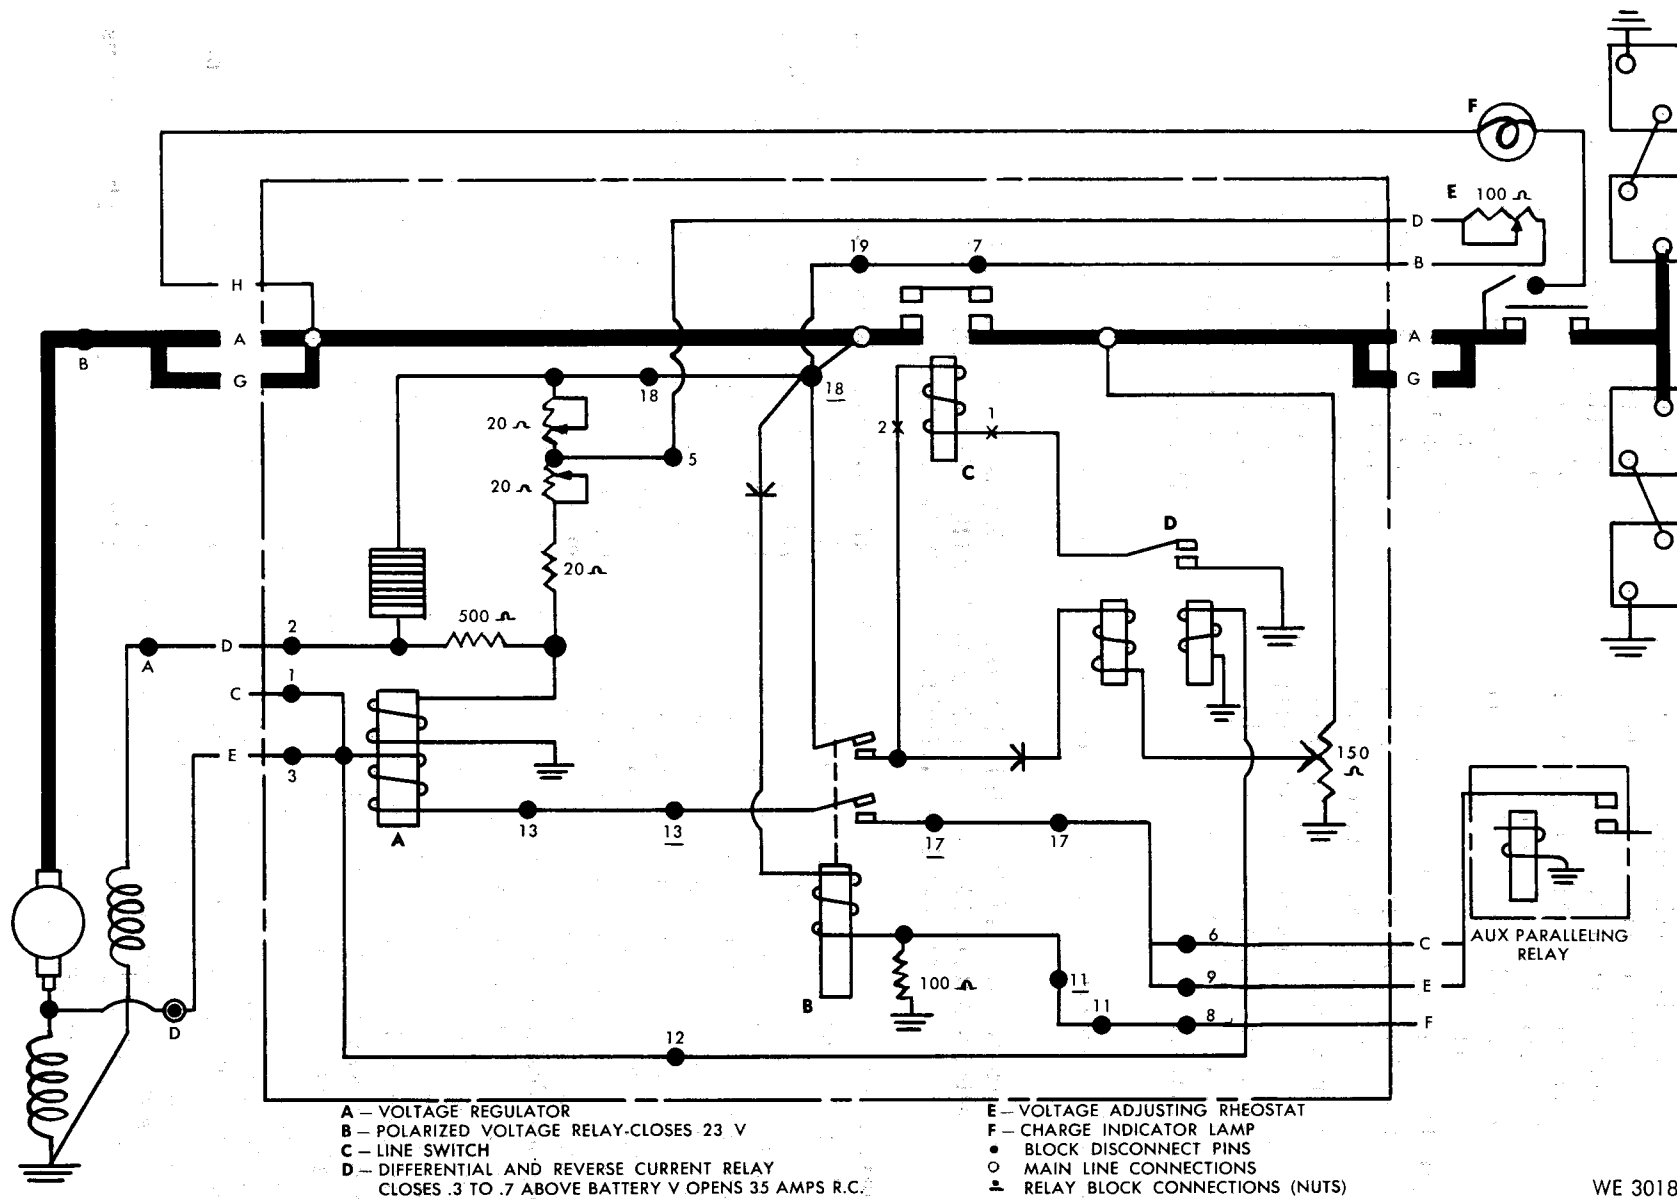
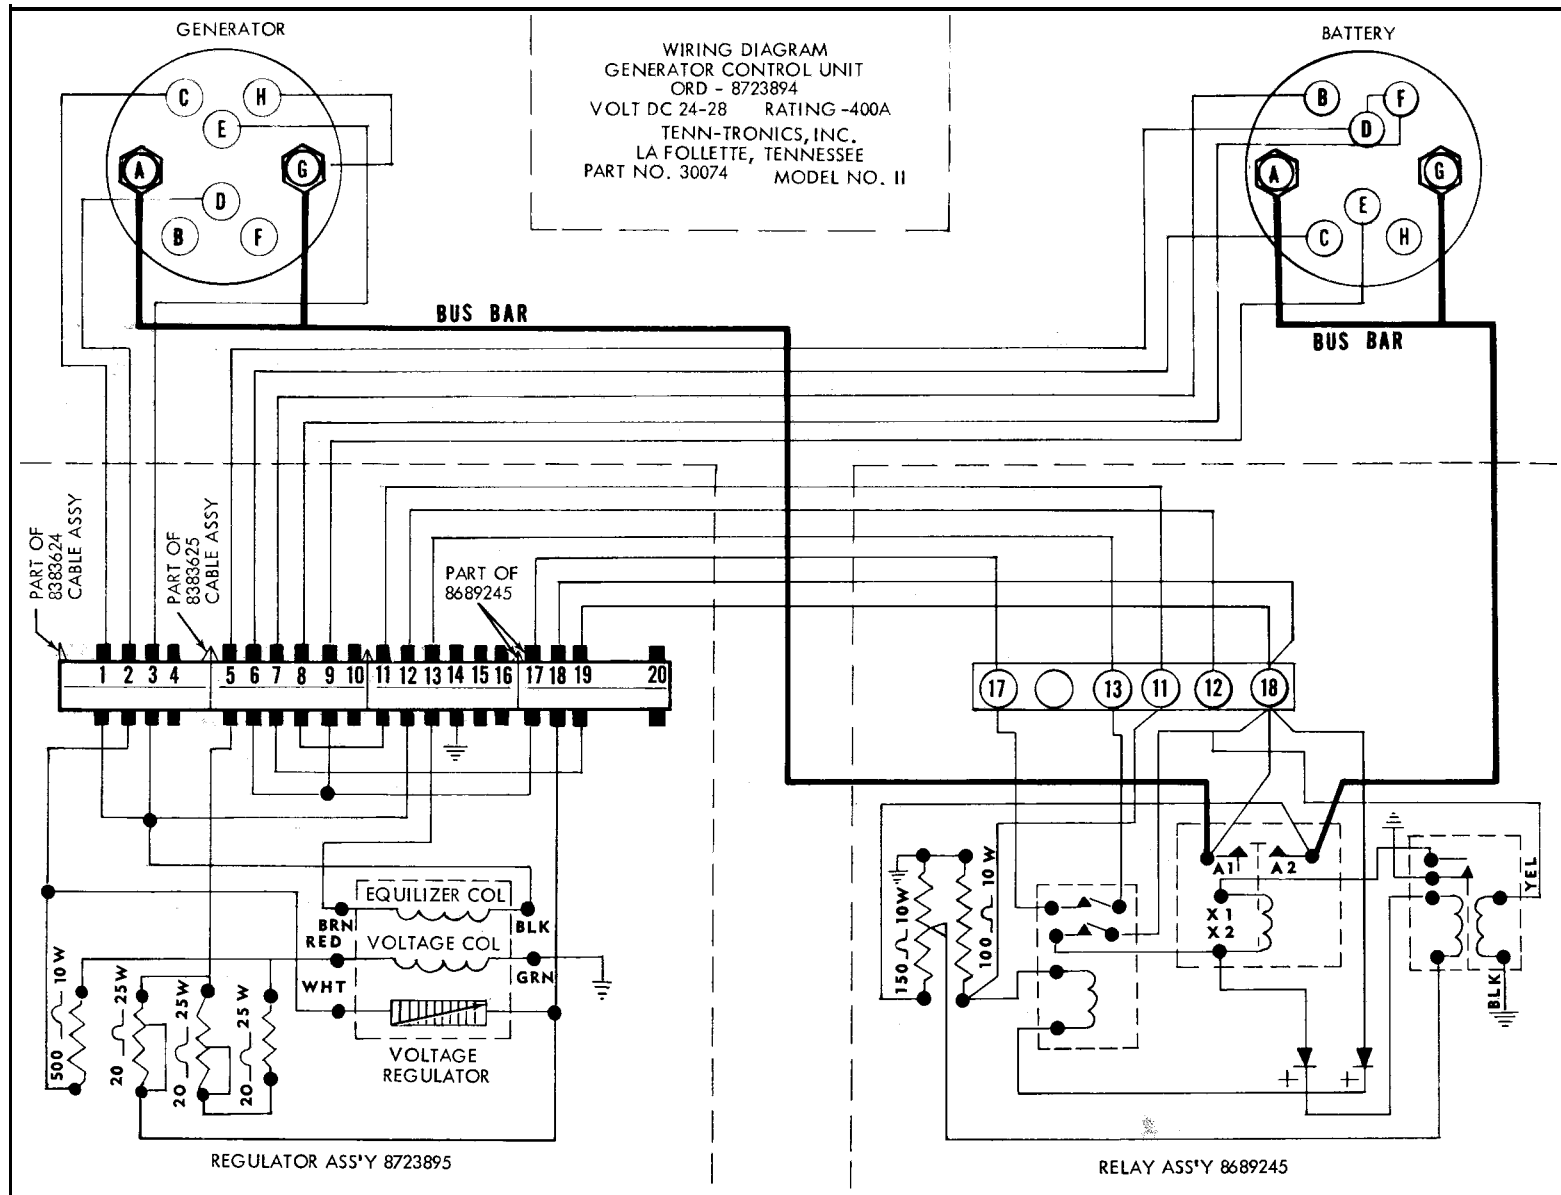

Figure 44. Wiring diagram for ordnance number 8723894 generator control box—complete hook-up to vehicle electrical system.
Figure 45. Wiring diagram for Tenn-Tronics, Inc. ordnance no. 8723894, part no. 30074, model II, 400-ampere generator control box—w/o hook-up to vehicle.
The Rett Products Company 400-ampere generator control box (fig. 44), the Electro-mechanical Products Company 400-ampere generator control box (not illustrated), and the Tenn-Tronics Inc 400-ampere generator control box (fig. 45), all identified under ordnance number 8723894 have a construction similar to that of the 150-ampere generator control box described in paragraph 119, except that they are designed for a 400-ampere circuit. The individual control units used in the construction of the Rett Products Company generator control box are a line switch, polarized voltage relay, differential and reverse current relay, voltage regulator, and voltage adjusting rheostat. The Electrical-Mechanical Products Company and Tenn-Tronics Inc generator control boxes are similar in construction with the Rett Products Company generator control box and the purpose and functional results of these three control boxes are the same as that which is described for the 150-ampere generator control box paragraph 119.
a. Purpose. This test is performed to indicate the functioning of the control units of the 400-ampere generator control box (fig. 44) and whether setting adjustments are required to the units so they perform in accordance with manufacturer's specifications.
- (5) Place the three 100-50 fixed load switches (12-A) (par. 126d in the "OFF" position, then increase the ampere load slowly by using the above fixed load switches, and if necessary, by placing the 0-25 0-12.5 load switch (12-D) in the "ON" position and turning the variable load 0-25 0-12.5 ampere rheostat (13) slowly clockwise and observe a slight drop-off in the regulator voltage on the dc voltmeter (4) and the leveling off of the ampere reading on the load dc ammeter (1), when the current regulator (figs. 44 or 45) of the generator control box goes into action.
- (6) Place the three fixed load switches (12-A) in the "OFF" position and turn the rheostat (13) fully counterclockwise. Continue with the differential voltage and reverse current test for the differential and reverse current relay in (7) below.